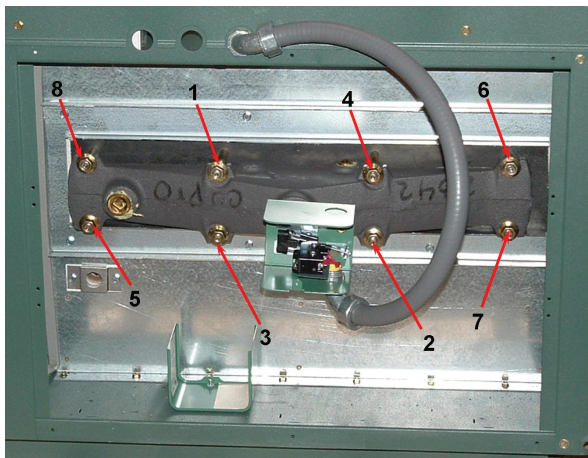

Figure 8. Torque Sequence
- Slowly tighten the flange nuts, starting from the center nut (number 1) in **Figure 8** and working sequentially around the header as indicated. Torque all nuts to 25 ft/lb. **DO NOT OVER-TIGHTEN.**